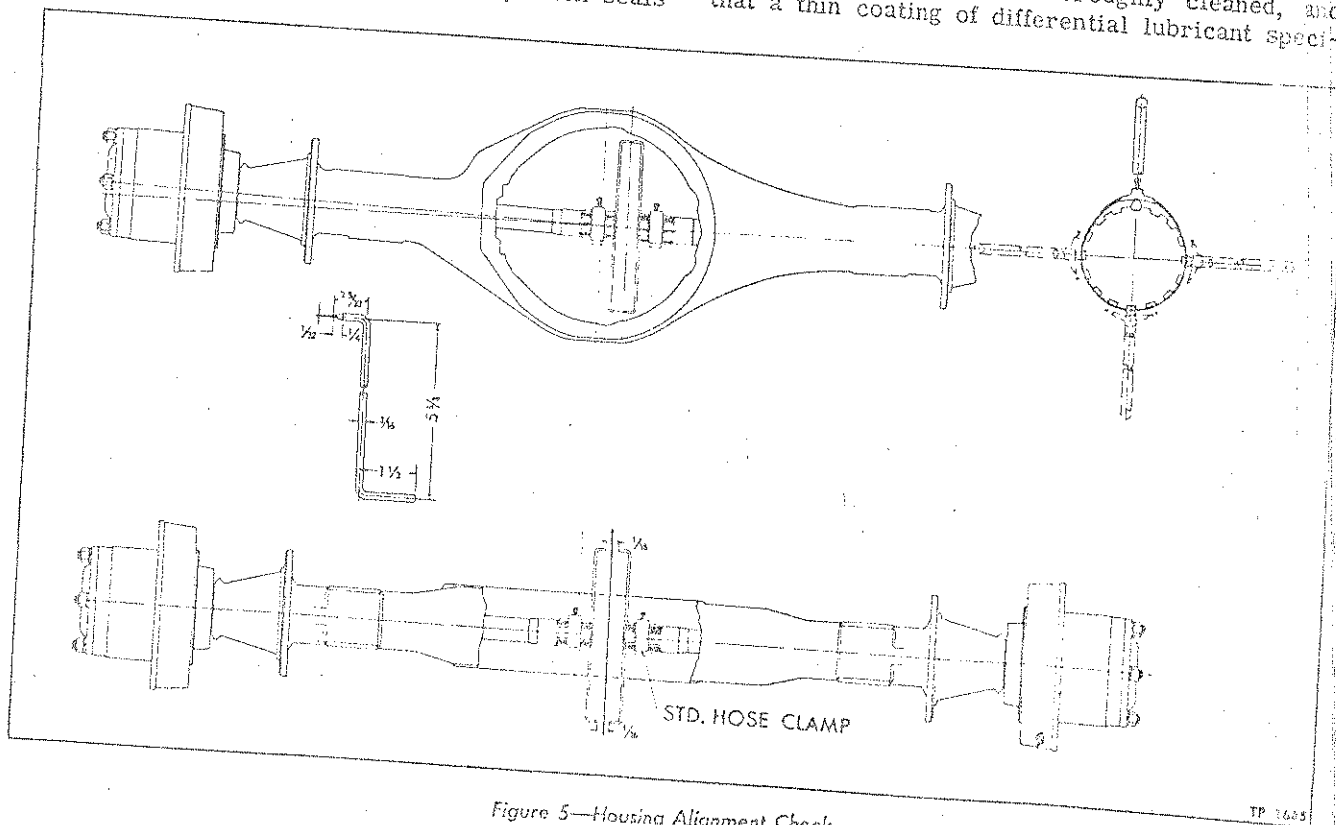

Figure 5—Housing Alignment Check
3. Indicators, as shown in figure 5, may be made locally from welding or drill rod ($3/16$ " diameter) to dimensions shown. Make certain that burrs on axle shaft splines have been removed. Install indicators in place as shown in figure 5. Radiator hose clamps of suitable diameter may be used to secure indicators in position.
4. Each indicator must be positioned at right angle to its respective axle shaft after it is secured in place. Both indicators must be in alignment with each other. There should be a slight gap between the points as shown in figure 5. Insert a feeler gauge or measure gap between the indicator points, and make note of this dimension.
5. Place both indicators in alignment, then rotate both shafts simultaneously. Make a check of the gap dimensions between the indicators at four points 90 degrees apart, as shown in figure 5. If the gap at each point exceeds original predetermined gap by more than $1/16$ ", axle housing is bent and should be straightened or replaced.